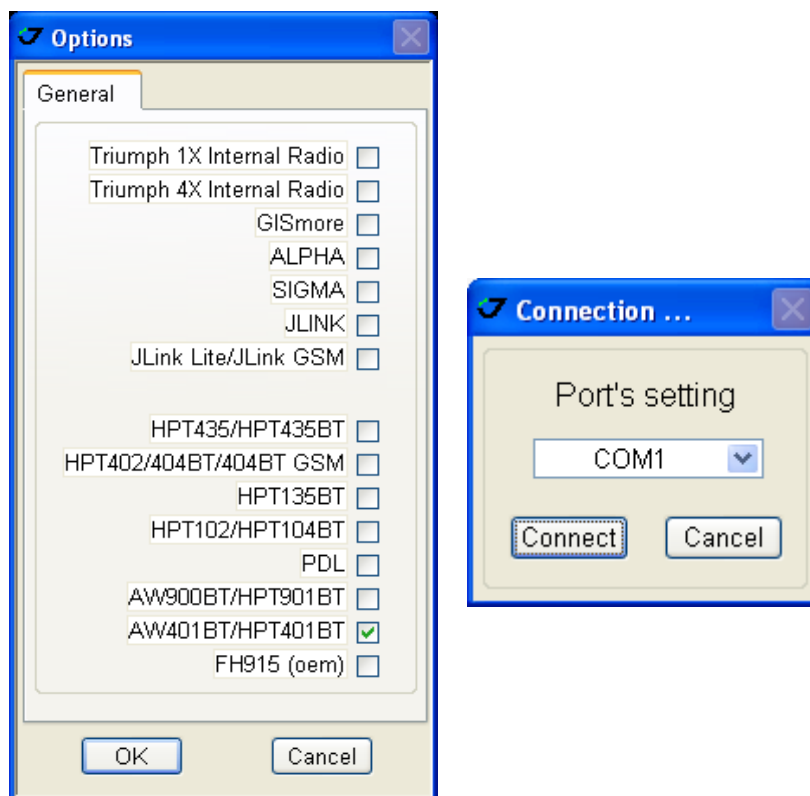

Figure 4. Main window
3. Start ModemVU. *Main* window appears (Figure 4). Choose *HPT401BT* modem and click *OK*. Then select the COM port the modem is connected to, and click *Connect*: